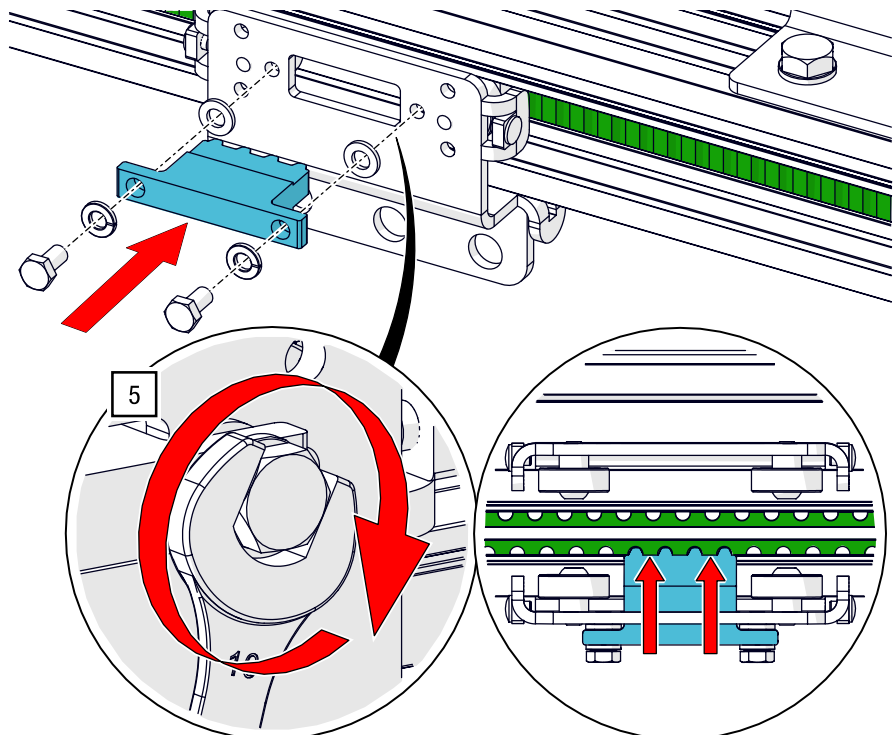

Fig. 85: Timing belt installation – Fasten master runner with belt comb
4. Pull the first master runner into 'curtain closed' position (see Fig. 85).
5. Pull the second master runner also into 'curtain closed' position, insert the comb and tighten it hand-tight with an open-ended spanner AF 10 (see Fig. 85).